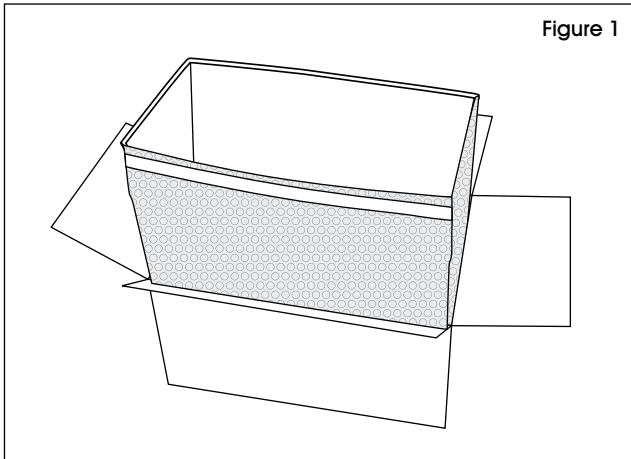

Figure 1
2. Insert the liner into box. Load contents and refrigerant. (See Figure 1)